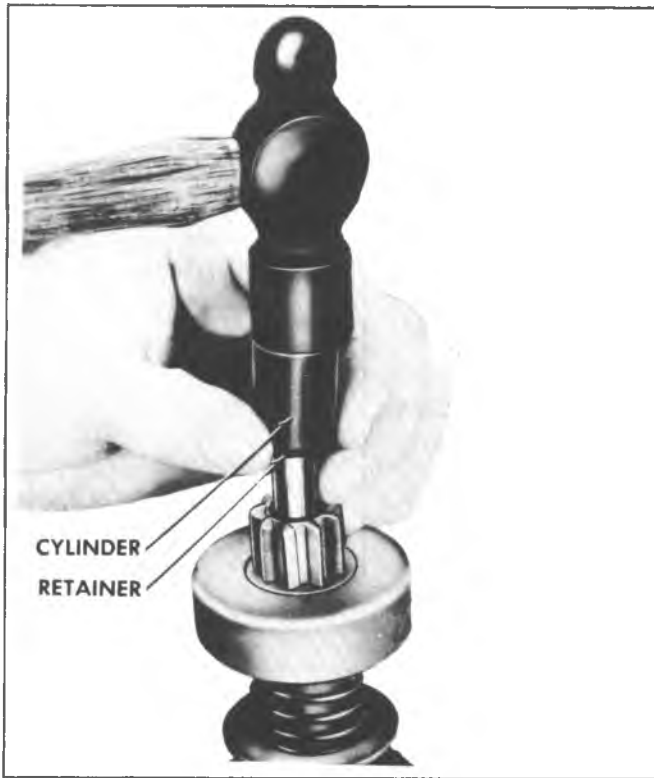

Fig. 6D-10E—Removing Retainer From Snap Ring
6. Remove the pinion from the armature by sliding a metal cylinder onto the shaft; with a hammer striking the metal cylinder against the retainer, drive the retainer toward the armature core and off the snap ring (Fig. 6D-10E).